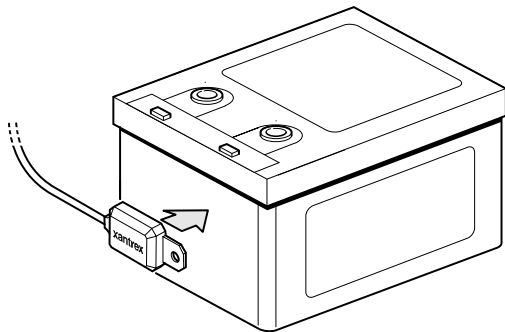

Figure 9 BTS Mounted on the Battery Case
5. Press the sensor firmly against the clean side of the battery to fix it in place, as shown in Figure 9.